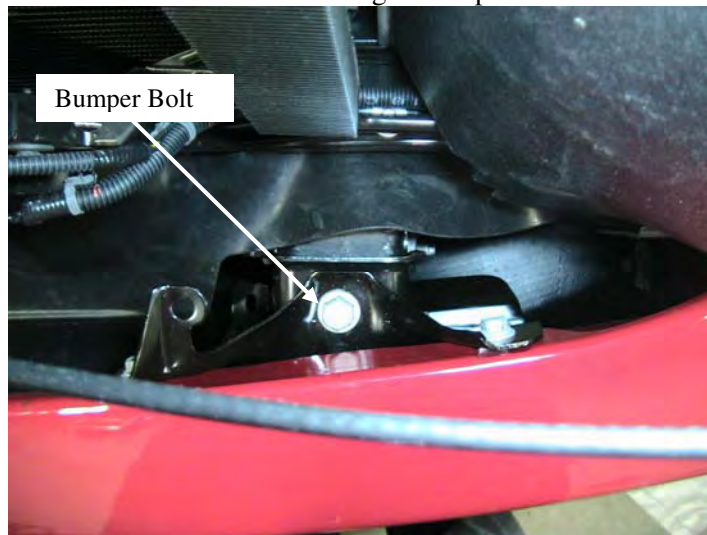

Figure 3. Vertical Bolt (Grill removed for clarity)
5. Remove the bumper attachment bolt that is installed through the top of the frame. See figure 3.